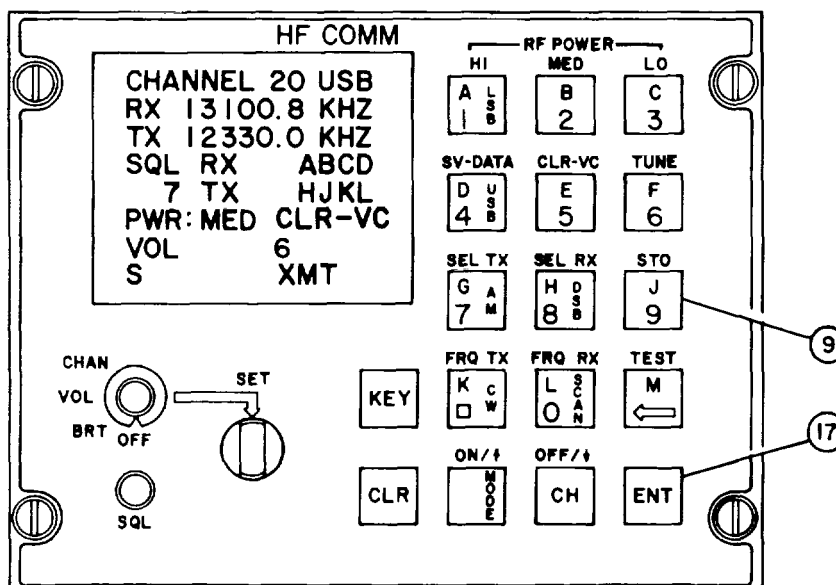

Figure 2-25. C-11245/U Store Function, Controls
- f. **Store.** Refer to figure 2-25. If new channel data, such as receive frequency, modulation mode, or power level, is entered but not saved, DATA NOT SAVED appears in the fault field in field 9 (figure 2-2), and the word CHANNEL appears in inverse video. Any other fault messages have priority over the DATA NOT SAVED message. To save the new channel information, press the STO pushbutton (9) followed by the ENT pushbutton (17). When the STO pushbutton is pressed, the word STORE appears in field 11 (figure 2-2) in inverse video. When the ENT pushbutton (17) is pressed, STORE is cleared from the display and the word CHANNEL changes to normal video after the store operation is complete.